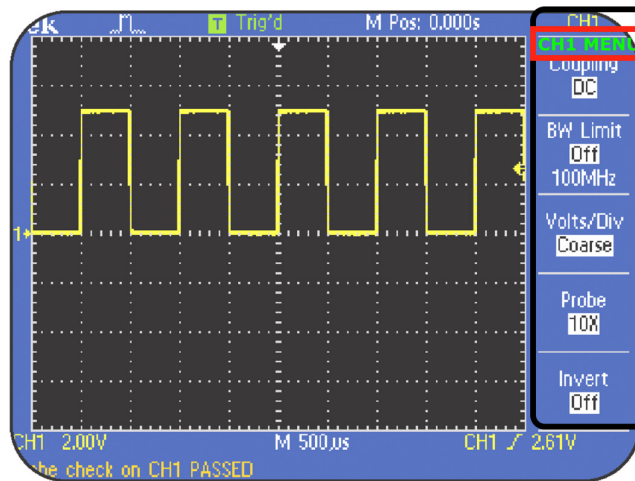

Figure 6. Menu for Channel 1 (CH1 MENU) [3]
- **CH1/CH2 MENU:** displays the menu for vertical adjustments (Figure 6). This button also has the function of turning on or off (**ON/OFF**) the image display on the corresponding channel by successive pressing.